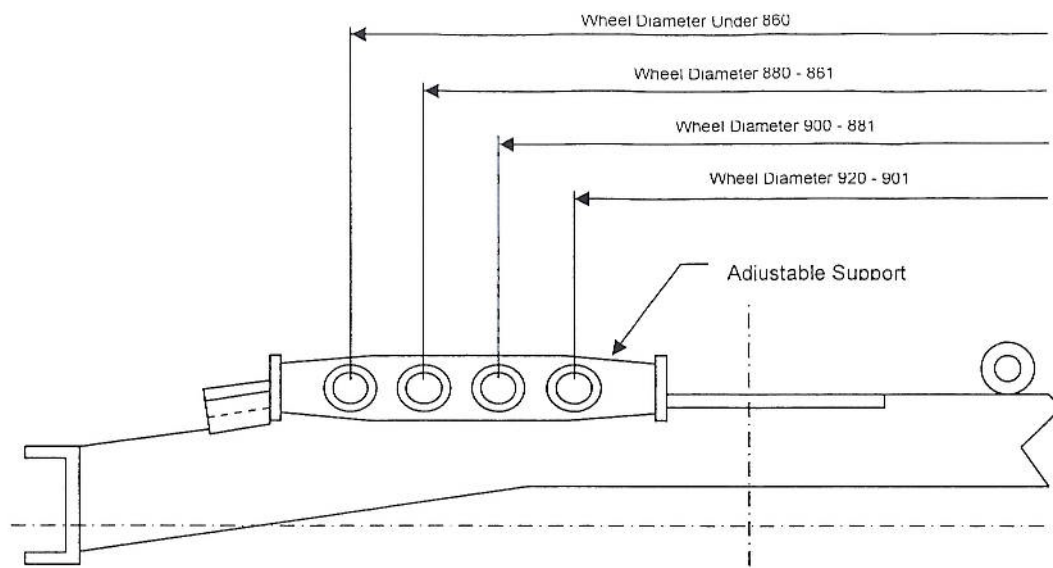

Figure 1 Adjustment of brake rigging to suit the wheel diameter
- Adjust the brake rigging to suit the wheel diameter by ensuring that the correct hole in the adjustment support is used (see Figure 1).